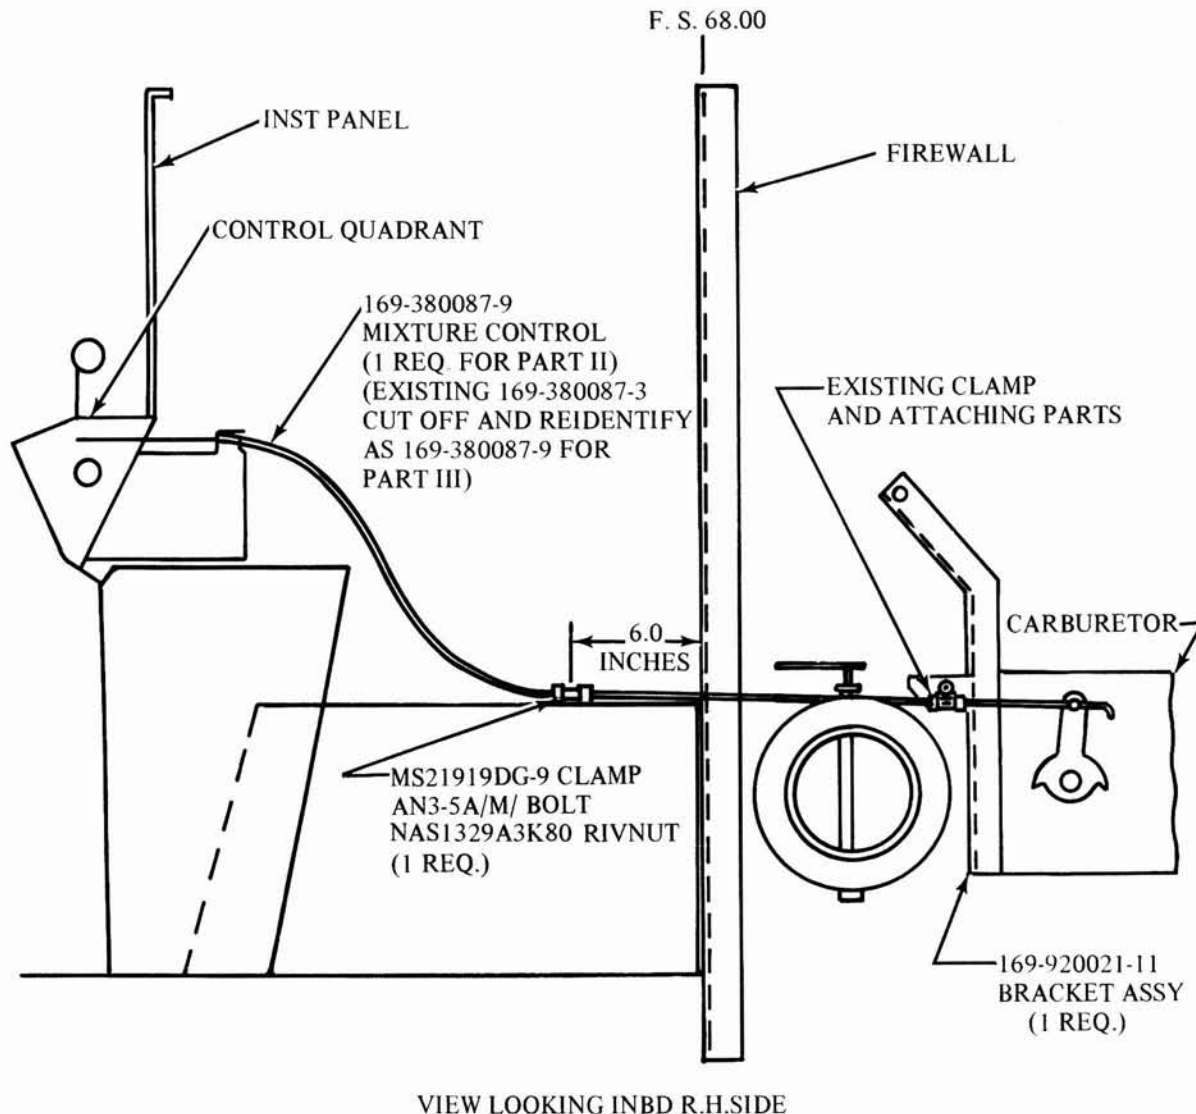

Figure 3. Mixture Control Installation
10. Attach the HF3 rod end to the quadrant end of the new P/N 169-380087-9 mixture control cable and route the cable through the hole which was drilled in the firewall in step 9. (See Figure 3.)
11. Secure the P/N 169-380087-9 control cable to the top of the control cover box with one each MS21919DG9 clamp, AN3-5A/M/ bolt and NAS1329A3K80 rivnut at a point six inches aft of the firewall. (See Figure 3.)
12. Remove the P/N 169-920021-1 bracket assembly from the carburetor and replace it with a new P/N 169-920021-11 bracket assembly. (Figure 3.)
5. Reroute the existing P/N 169-380087-3 mixture control cable through the hole which was drilled in the firewall in step 4. (See Figure 3.)
6. Secure the mixture control cable to the top of the control cover box with one each MS21919DG9 clamp, AN3-5A/M/ bolt and NAS1329A3K80 rivnut at a point six inches aft of the firewall. (See Figure 3.)
7. Remove the P/N 169-920021-1 bracket assembly from the carburetor and replace it with a new P/N 169-920021-11 bracket assembly. (See Figure 3.)